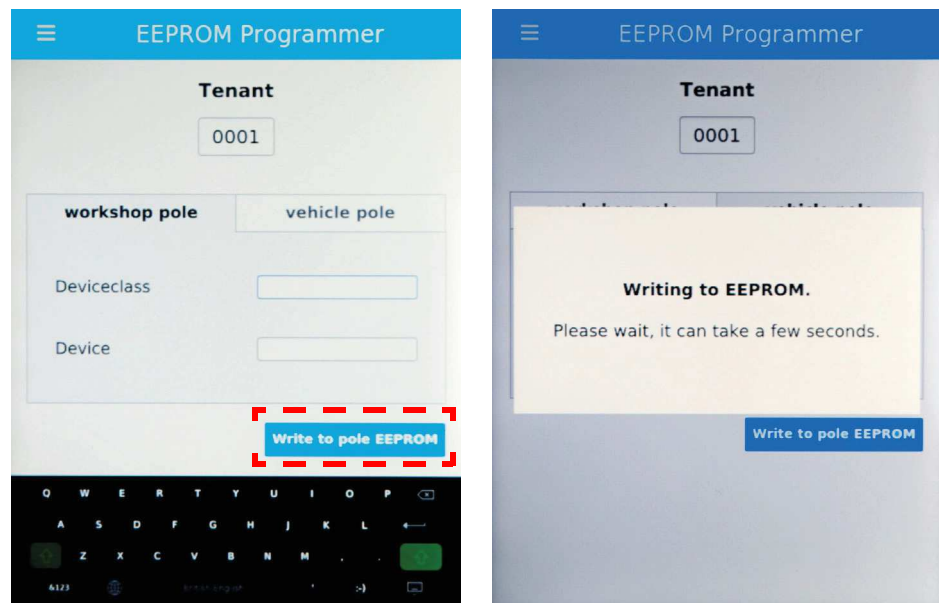

Figure 4-5 BAT 5
Step 6 Press the <Write to pole EEPROM> button (see **Figure 4-5**).